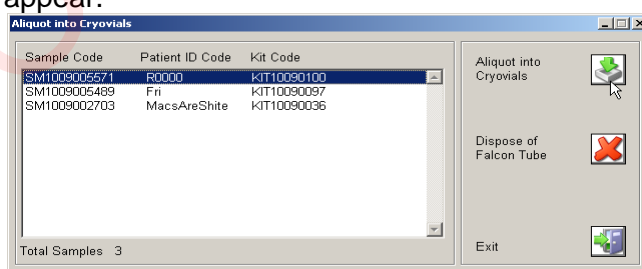
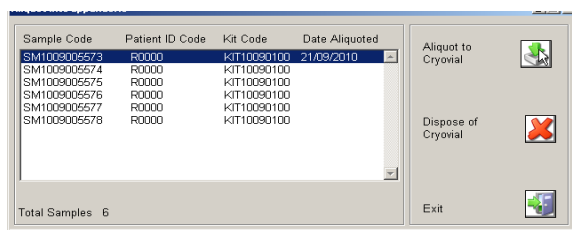

Figure 27 - **'Aliquot into Cryovials'** screen
Figure 28 - 'Aliquot into selected Cryovials' screen
16. The **'Aliquot'** icon should be selected from the main Urine Workflow , the **'Aliquot into Cryovials'** screen will pop up (Figure 27). Select the sample then select the **'Aliquot into Cryovials'** icon . The list of cryovials to store the urine will appear (Figure 28) and the sample kit code. Select a cryovial and click on the **'Aliquot to Cryovials'** icon , the date aliquoted will appear.